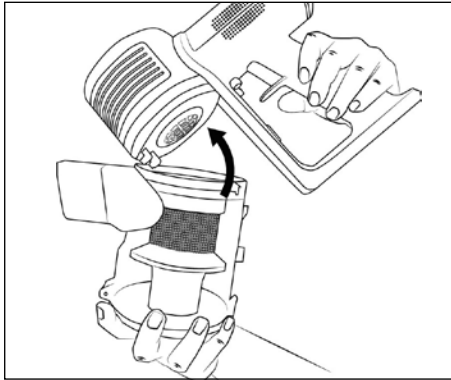

Fig. 25
- 9) Close the dust container lid ⑧ by hand.
- 10) Place the dust container ⑦ back in the appliance. Push it in the direction of the appliance until it audibly clicks into place (see Fig. 25).